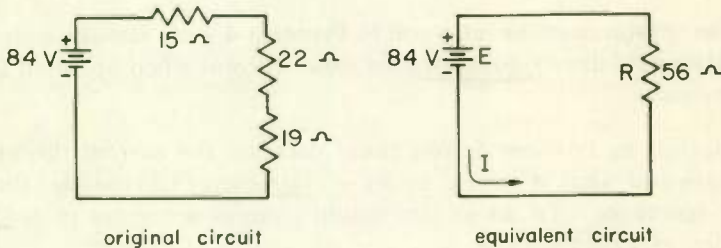

Fig. 20
1. (a) See Fig. 20, left-hand diagram. (b) 56 Ω (c) See Fig. 20, right-hand diagram. (d) 1.5 A ... $I = \frac{E}{R} = \frac{84 \text{ V}}{56 \Omega} = 1.5 \text{ A}$